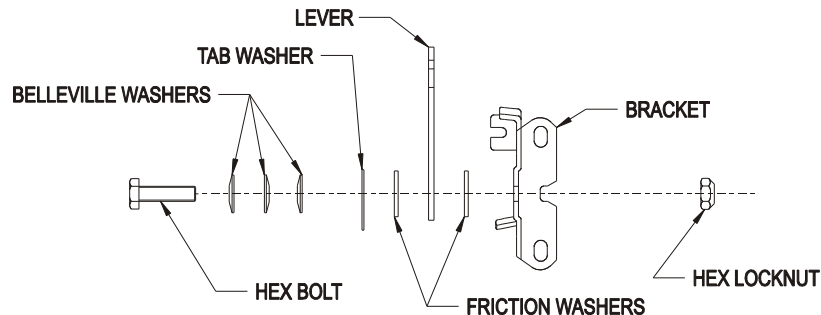

FIGURE 16
- b) Tension in throttle lever can be adjusted by adjusting the tightness of the lever pivot bolt, which is located under the console. See Figure 16.